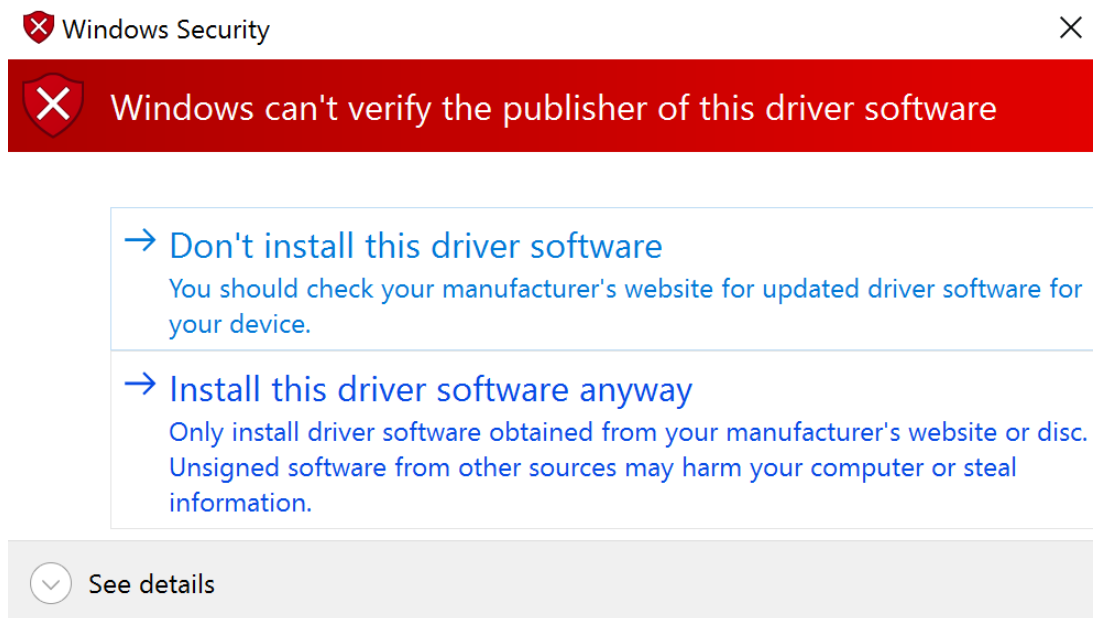

Figure 18. Windows® Publisher Verification Warning
5. There may be a warning that Windows cannot verify the publisher of this driver software, as shown in Figure 18. Choose *Install this driver software anyway* to proceed.